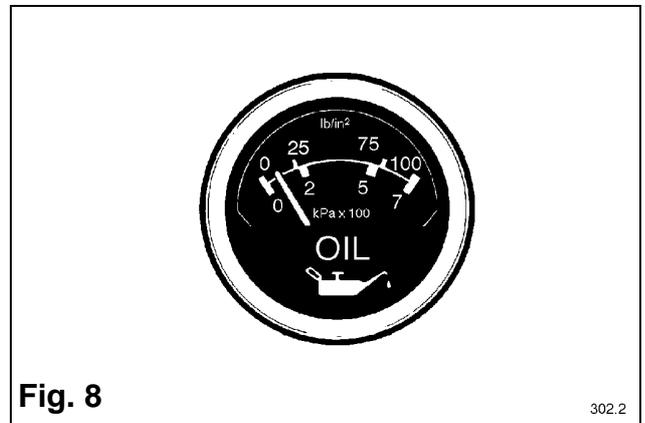

Fig. 8
**Engine oil pressure gauge Fig. 8**